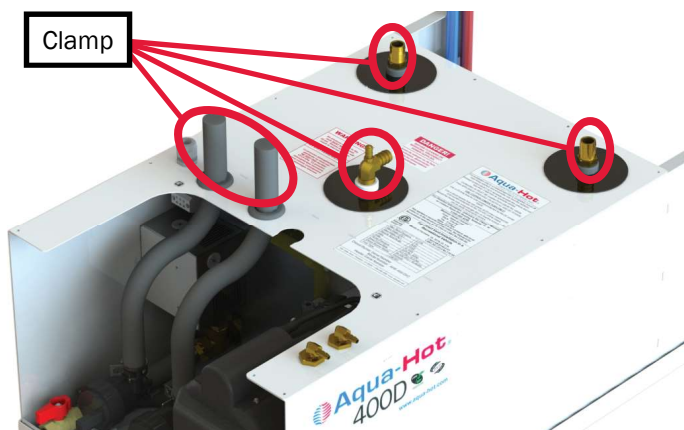

Figure 14
3. Clamp the zone hoses shut to prevent the zones from draining into the Aqua-Hot. Reference Figure 14.
1. Clamp the zone hoses shut to prevent the zones from draining into the Aqua-Hot. Reference Figure 14.